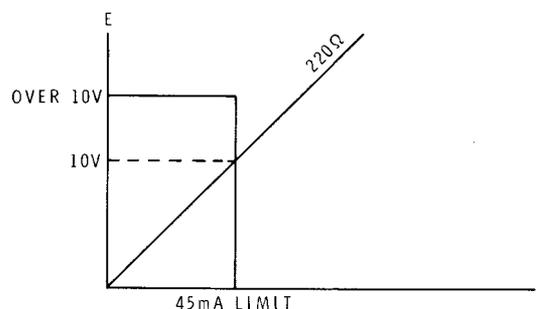

Figure 4
7. Turn the VOLTAGE control clockwise. Note that the voltage does not increase perceptibly. The supply is now current-limited. (See Figure 4).